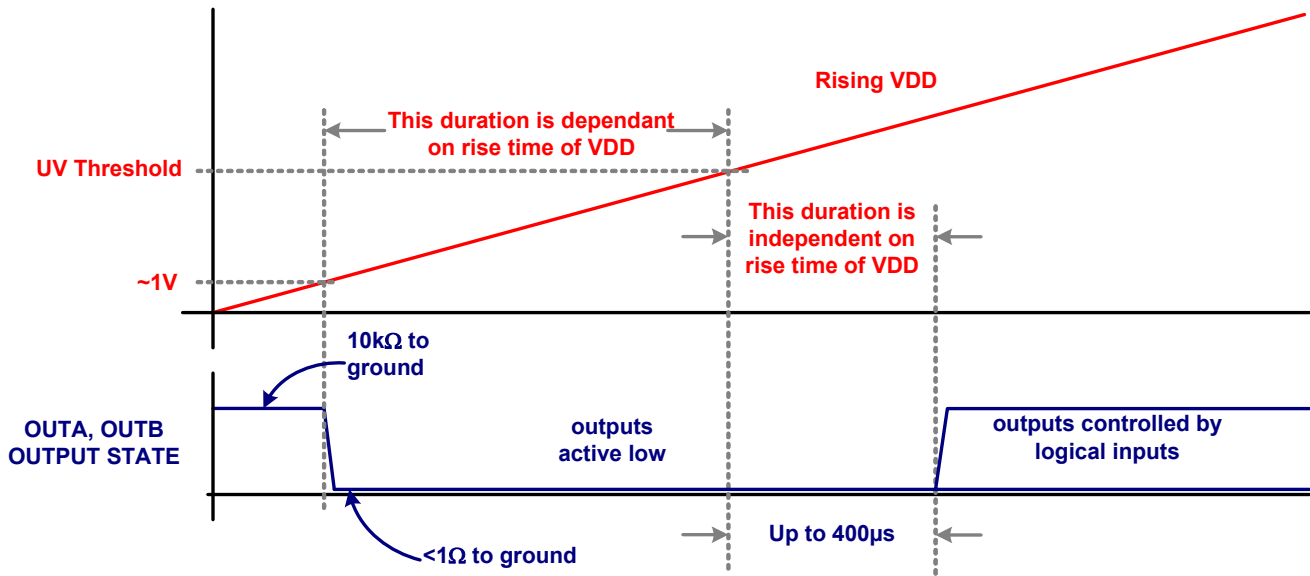

FIGURE 9. START-UP OUTPUT CHARACTERISTIC
12. A 400 μs delay further inhibits the release of the output state when the UV positive going threshold is crossed. See Figure 9.
The start-up sequence for input threshold options A, B, and C is designed to prevent unexpected glitches when V_{DD} is being turned on or turned off. When $V_{DD} < \sim 1V$, an internal 10k Ω resistor connected between the output and ground, help to keep the gate voltage close to ground. When $\sim 1V < V_{DD} < UV$, both outputs are driven low while ignoring the logic inputs. This low state has the same current sinking capacity as during normal operation. This insures that the driven FETs are held off even if there is a switching voltage on the drains that can inject charge into the gates via the Miller capacitance. When $V_{DD} > UVLO$, and after a 400 μs delay, the outputs now respond to the logic inputs. See Figure 9 for complete details.